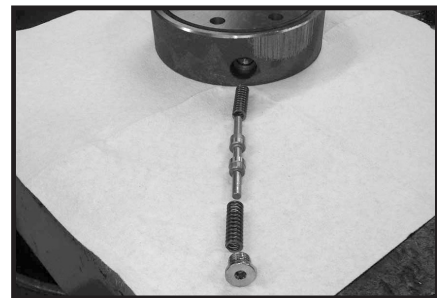

Figure 52
17. If shuttle valve components items #21, #22, #23, #24 were removed from the end cover (2) turn a plug (21) with a **new** o-ring (22), loosely into one end of the valve cavity in the end cover. Insert a spring (23) the valve (24) and the second spring (23) into the other end of the valve cavity. Turn the second plug (21) with a **new** o-ring (22) loosely into the end cover valve cavity. 3/16 inch Allen wrench required. SEE FIGURE 52.